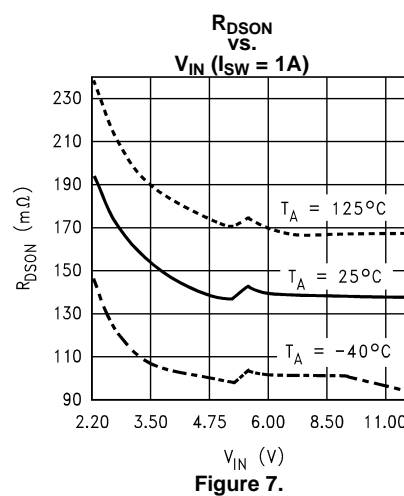

Figure 7.
- (1) All limits guaranteed at room temperature (standard typeface) and at temperature extremes (bold typeface). All room temperature limits are 100% production tested or guaranteed through statistical analysis. All limits at temperature extremes are guaranteed via correlation using standard Statistical Quality Control (SQC) methods. All limits are used to calculate Average Outgoing Quality Level (AOQL).
- (2) Typical numbers are at  $25^\circ\text{C}$  and represent the most likely norm.
- (3) Duty cycle affects current limit due to ramp generator. Current limit is at 0% duty cycle and will decrease with higher duty cycles. See Typical Performance Characteristics for a graph of Power Switch Current Limit vs.  $V_{IN}$  and Power Switch Current Limit vs. Temp.
- (4) See the graph titled " $R_{DS(on)}$  vs.  $V_{IN}$ ", Figure 7, for a more accurate value of the power switch  $R_{DS(on)}$ .
- (5) Bias current flows into FB pin.